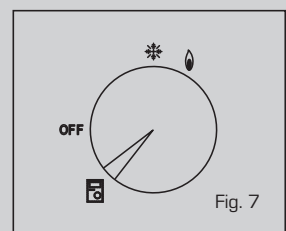

Fig. 7
**WARNING: WHEN THESE MODULES ARE CONNECTED TO THE RVA 47.320 REGULATOR, THE “CR/OFF/INV/RELEASE SELECTOR MUST BE POSITIONED AS INDICATED IN FIG. 7.**